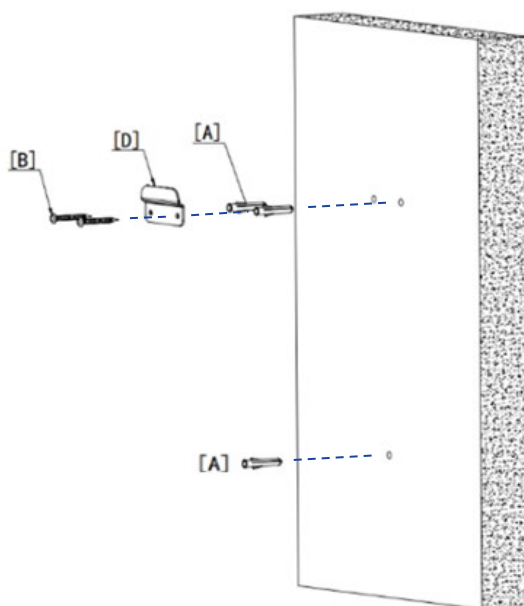

Figure 4.2 Installing Expansion Tubes and Positioning Plate
- 3) With two mounting screws (**Accessory B**) and the two screw holes on the top, fix the positioning plate (**Accessory D**) on the wall (**Figure 4.2**).